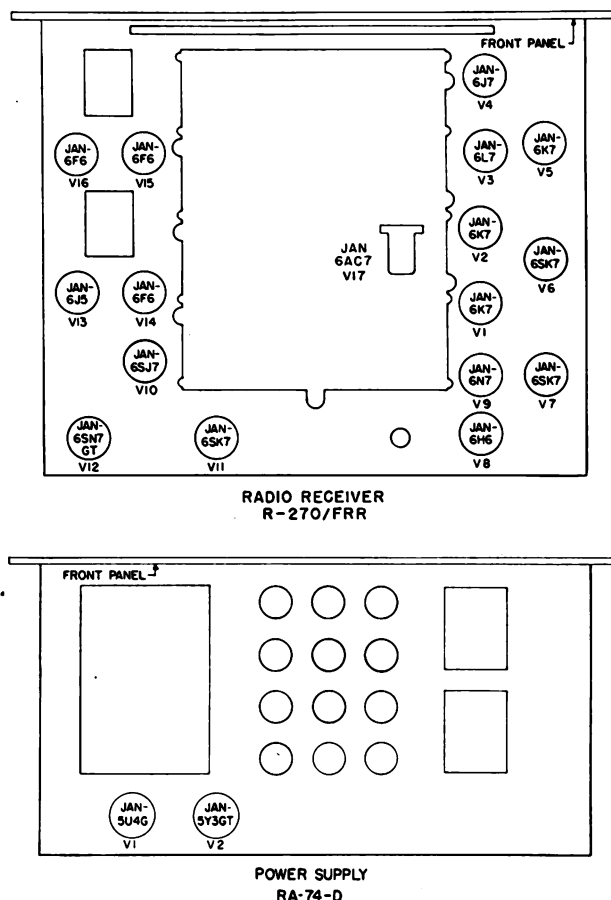

Figure 15. Tube Location chart.
b. Remove tubes from the packing cases; make sure that all tubes are in good physical condition. Figure 15 shows the proper location for the tubes in the receivers and power supplies. Tube type numbers and tube symbols are stenciled on the chassis adjacent to the tube socket. Insert tubes in their respective sockets. Place the tube retainer on the posts to hold tube V-1 securely in the power supply.